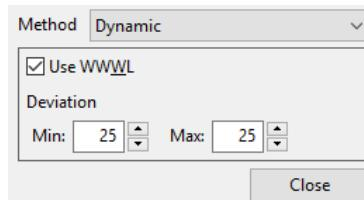

Figure 6.27: Dynamic method parameters.
- **Dynamic:** Uses the value of the pixel clicked by the user. Then every connected pixel inside the lower (min) and the upper (max) range deviation are selected. The option **Use WWWL** is default and takes into account the image with **window width** and **window level** applied not the raw one (figure 6.27).